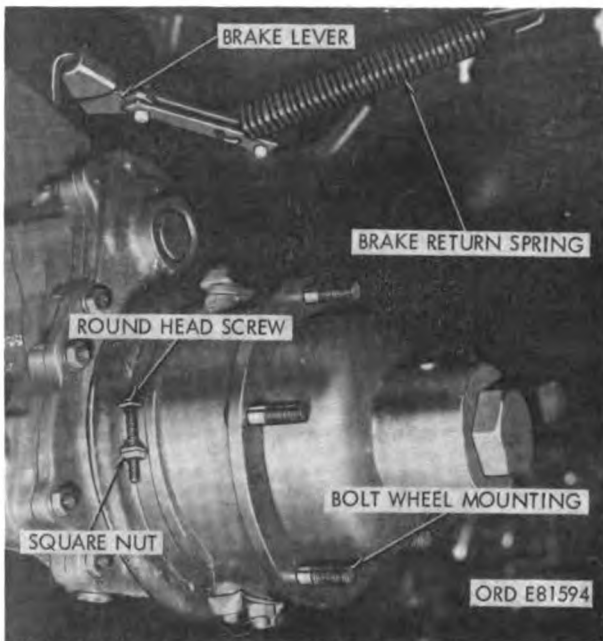

Figure 2-52. Brake return spring.
- (6) Unhook brake return spring (fig. 2-52) from brake lever adapter. Remove cotter pin, flat washer, and clevis pin securing handbrake flexible linkage to brake lever assembly. Remove cotter pin and clevis pin securing brake lever assembly rear linkage to brake lever.